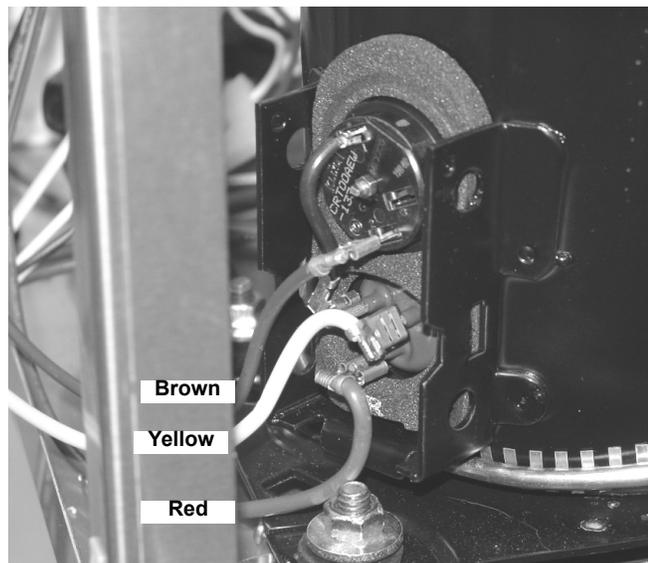

Figure 42.
52. Connect the compressor (Figure 42) and replace the junction box cover.